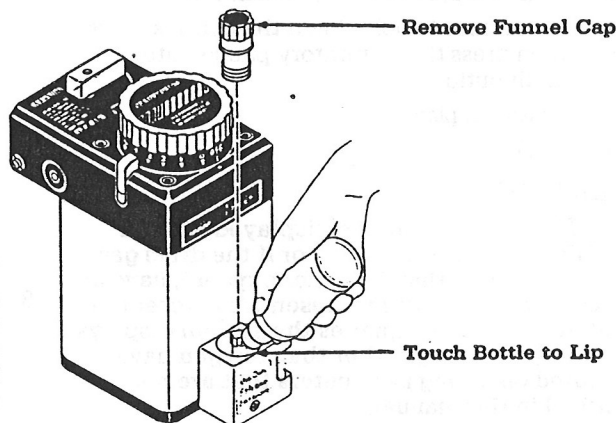

Figure 5-7
2. A funnel-cap/valve is on top of the filler port. Turn this cap counterclockwise until you can remove it, exposing the built-in funnel in the port. (See figure 5-7.)